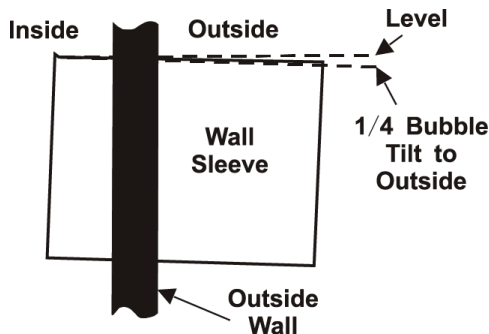

Fig 6 Proper Sleeve Tilt
- A slight downward pitch from the indoor side to the outdoor side as shown in Fig. 6